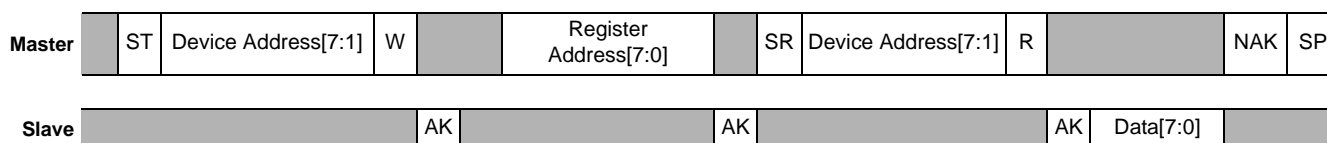

Figure 10. Single-Byte Read timing (I²C)
1. The transmission of an 8-bit command begins on the falling edge of SCL. After the eight clock cycles are used to send the command, note that *the data returned* is sent with the MSB first after the data is received. Figure 10 shows the timing diagram for the accelerometer 8-bit I²C read operation.
2. The Master (or MCU) transmits a start condition (ST) to the MMA8652FC [slave address (0x1D), with the R/W bit set to "0" for a write], and the MMA8652FC sends an acknowledgement.
4. The Master (or MCU) transmits a repeated start condition (SR) and then addresses the MMA8652FC (0x1D), with the R/W bit set to "1" for a read from the previously selected register.